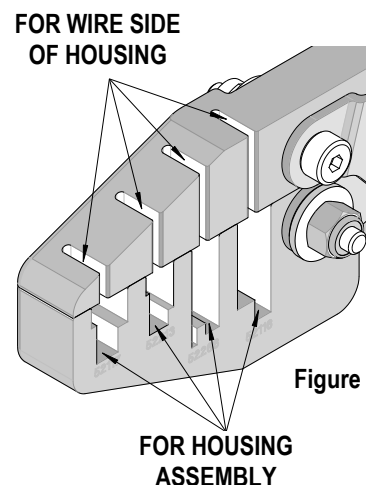

Figure 1
The upper and lower jaws stay in place when seating the cap to the housing assembly. The four (4) pockets located on each jaw have been placed so they will align the housing assembly with the wire end seal for all specified assemblies. See Figure 1.